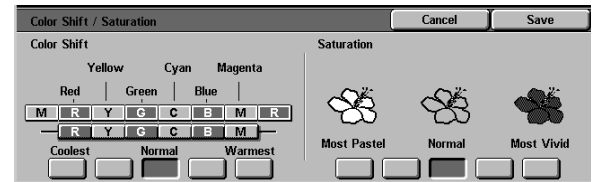

Figure 32: Color Shift/Saturation screen
- 1 Touch the **Color Shift/Saturation** icon on the Image Quality tab to display the Color Shift/Saturation screen, as illustrated in Figure 32.